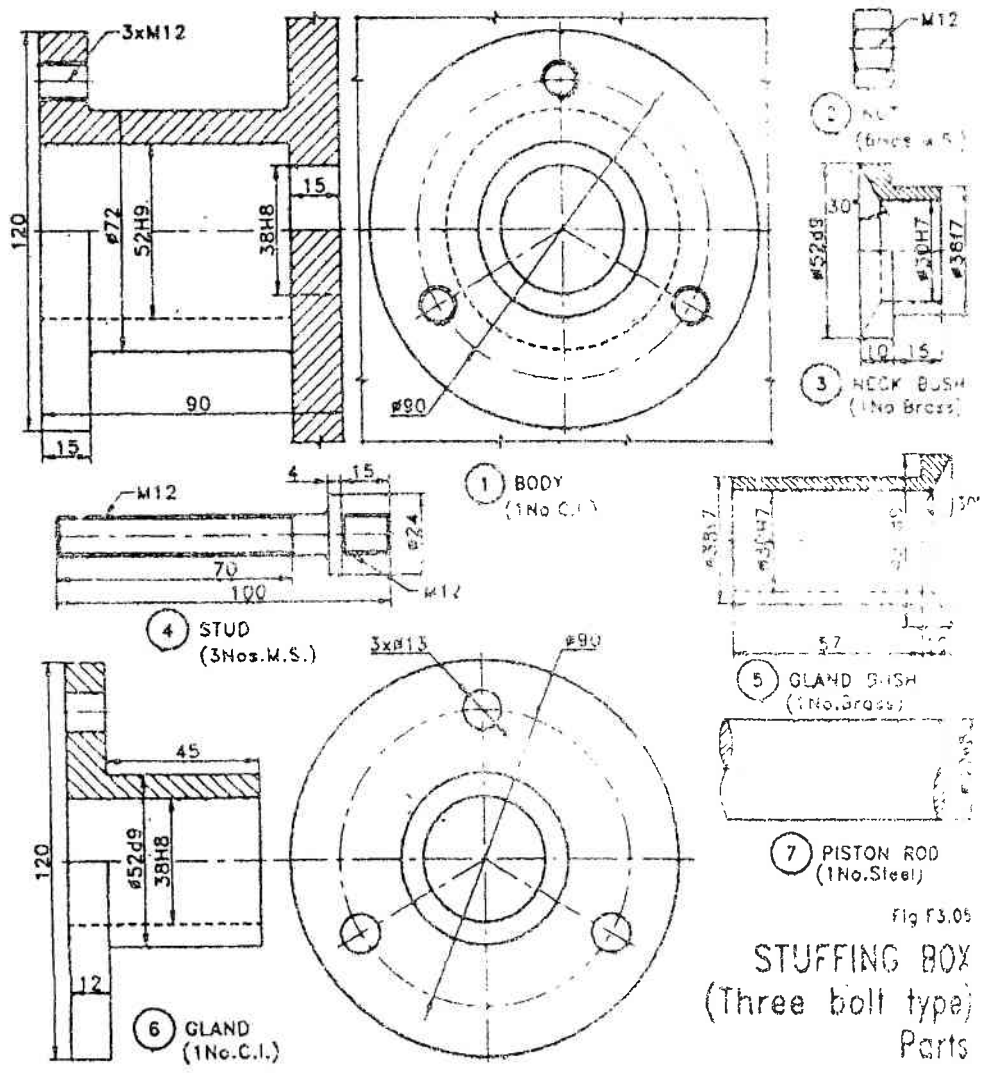

Fig. 4 Stuffing box
5. The part drawings of stuffing box is shown in Fig. 4 Draw the sectional front view and top view of the assembly.